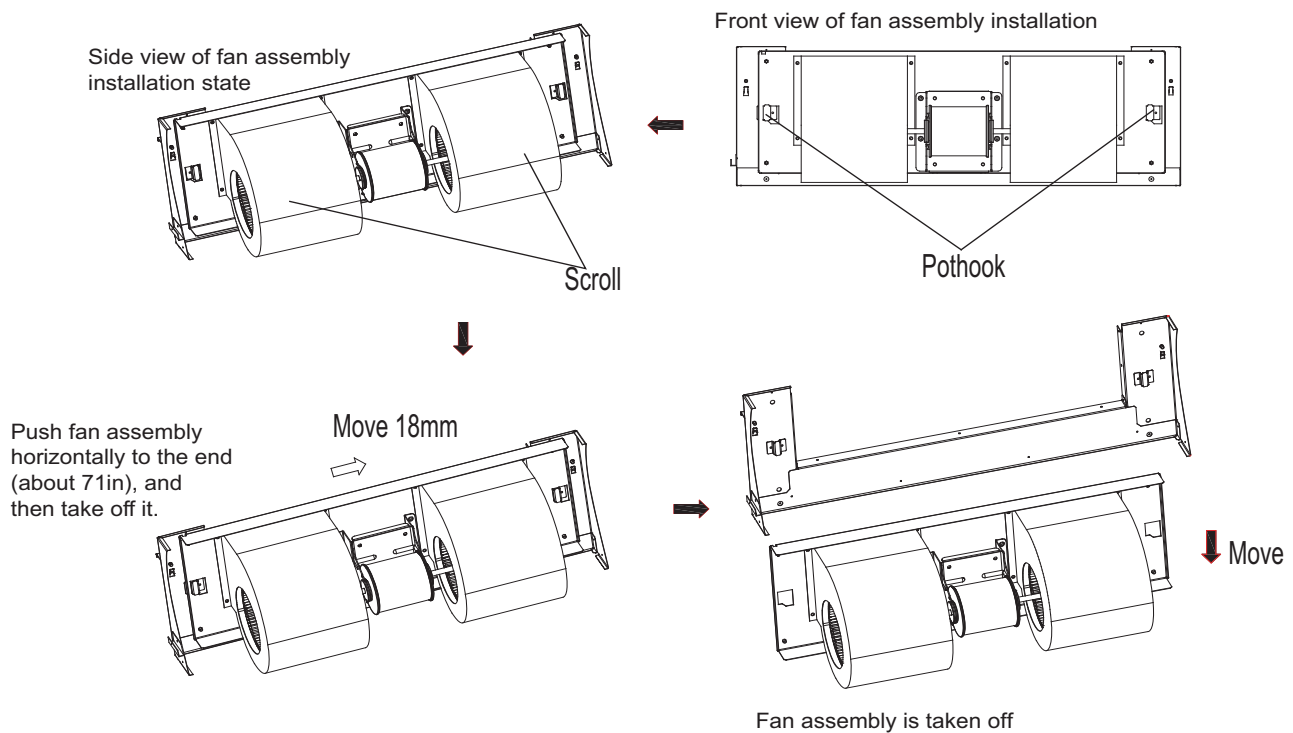

Fig. 43 —Fan Disassembly (048-054)
2. Remove all 4 bolts from the fan assembly (see Fig. 43).
3. Horizontally push the fan assembly until it cannot not move any further, and then lift up slightly and take down to remove (see Fig. 43).